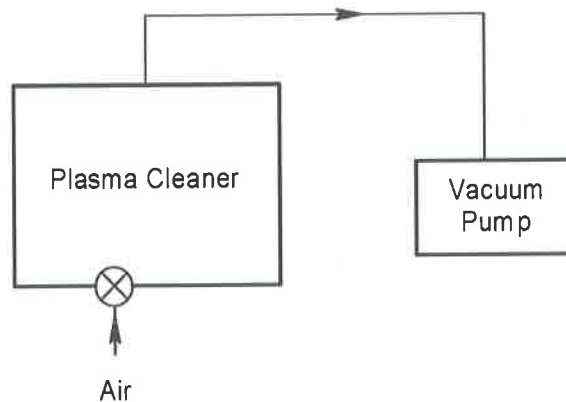

Figure 3 • Diagram for Room Air Processing
- To setup the Plasma Cleaner for processing with room air (Figure 3):